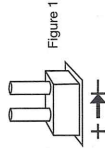

Figure 1
9. Connect the LED cable to pin header J1/J2/J3/J4 (optional) (see Figure 1).